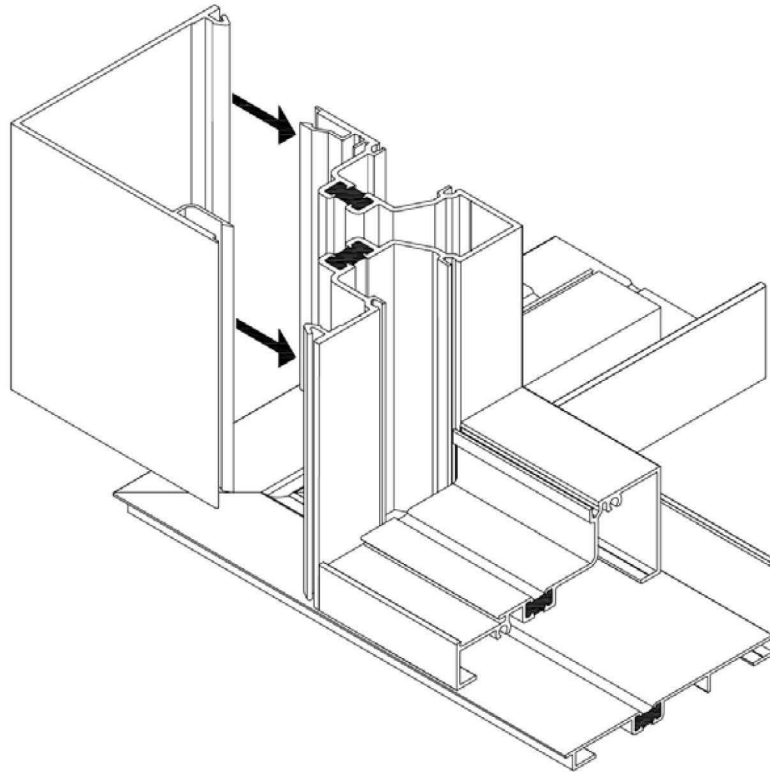

**Fig. 14**
1. Miter two 12" sections of sub sill to correct angle See Figure 14.
2. Set mitered joint in a bed of sealant and securely anchor corner into place with a tight joint. Pin anchors close to corners to ensure a secure corner. (See Figure 14, page 15.)